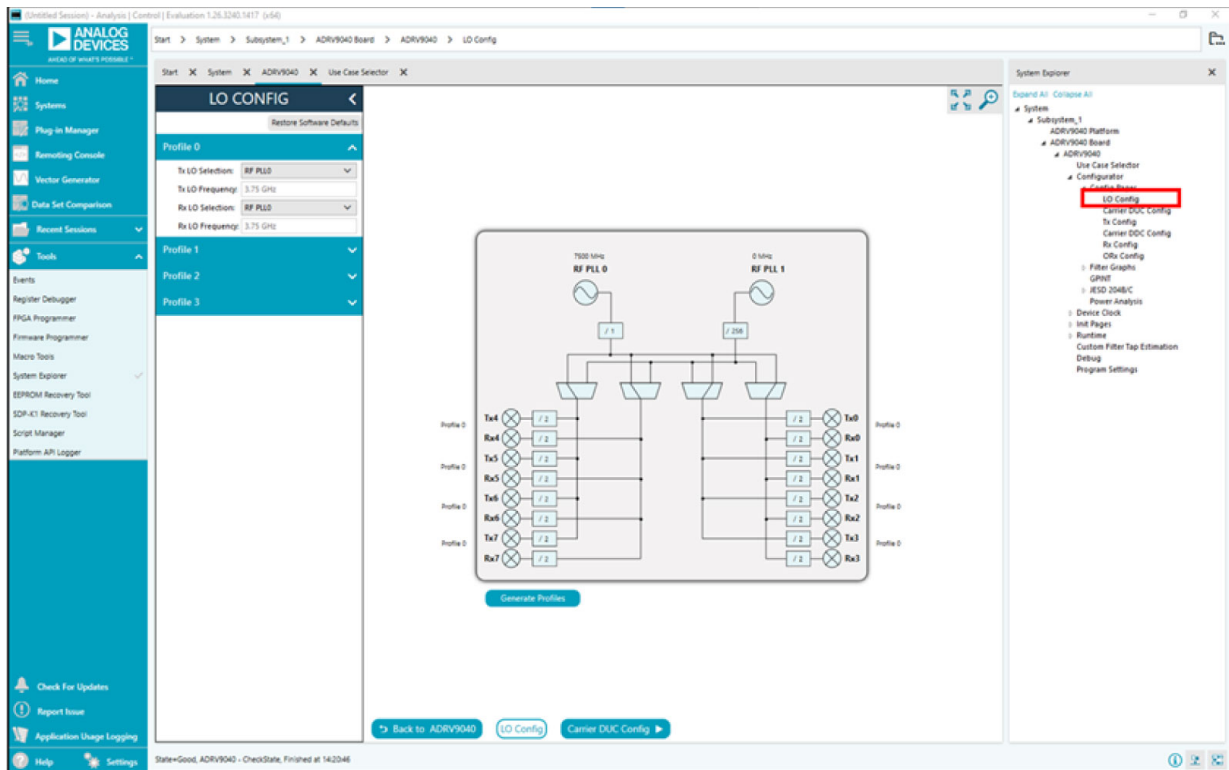

Figure 14. LO Config Page Showing ADRV904x LO Generation Setup for Given LO Frequency
After setting the desired profile mappings on the **Top Level Config** page, the user can navigate to the **LO Config** page. Click on the **LO Config** button at the bottom of the **Top Level Config** page as shown in Figure 14.
Note that profile generation requires all the **Configurator** pages to be set up correctly, otherwise errors might occur. An error is also displayed if the user selects an out of range or invalid setting for any of the available parameters. These error messages can be accessed from the left panel of the **ACE** under **Tools > Events**. If at any point the configurator is put into a bad state, the user can click on **Restore Software Defaults** to return to a known good state as shown in Figure 14.
Once profiles are generated without error, the LO diagram updates to show a high level view of the LO generation setup inside the ADRV904x device for all assigned profiles, which includes the mux connections, radio frequency (RF) phase locked loop (PLL) voltage controlled oscillator (VCO) frequencies, and dividers used per receiver and transmitter channels. Figure 14 shows the **LO Config** page with the LO set to 3.75 GHz.